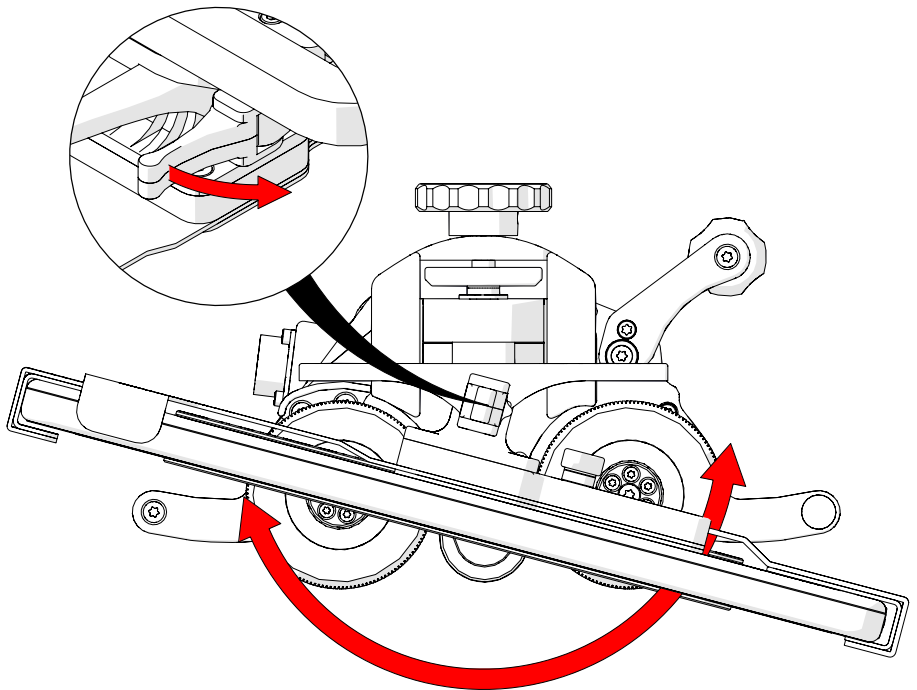

Fig. 58 - Loosen lever and pivot
1. Loosen the lever to pivot the detector as required. Tighten the lever to lock the detector in place (Fig. 58).